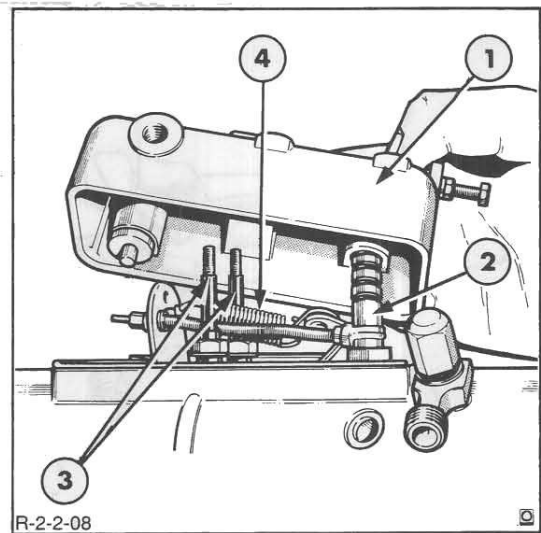

Figure 8
2. Remove the two domed nuts securing the governor control housing and remove the housing, withdrawing the throttle shaft, Figure 8.